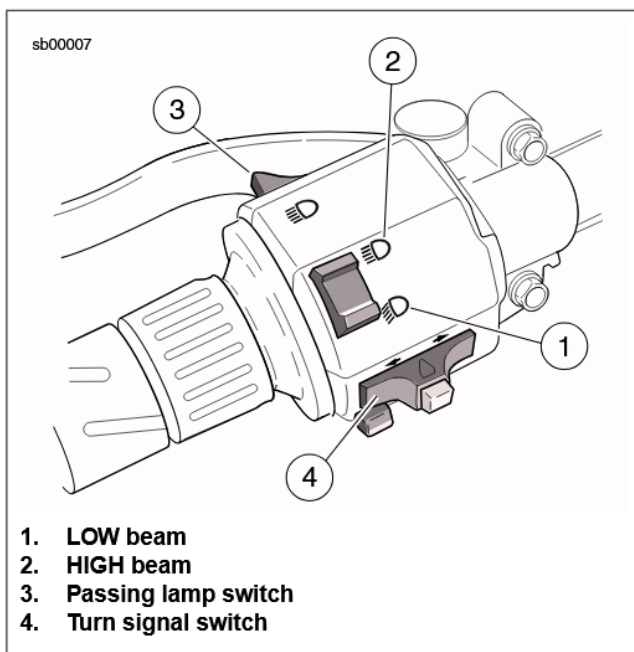

Figure 6. Front Turn Signal Connections
- b. See Figure 6. Check headlight LOW (1) and HIGH beam (2) settings.
- c. Set headlight to LOW beam. Press passing lamp switch (3). Headlight should flash HIGH beam as long as the switch is pressed.
- d. Activate left turn signals using switch on left handlebar (4). Front and rear left turn signals must flash.
- a. See Figure 6. Turn ignition switch to IGN. Set handlebar headlamp switch to LOW beam position (1).
- a. See Figure 6. Set handlebar headlamp switch to HIGH beam position (2).